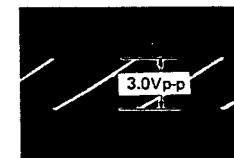

Fig. 4-9
- (1) Connect an oscilloscope to TP-7 on WFP BOARD.
- (2) Adjust R74 (V-SAW-POS) so that the signal level is 3.0 Vp-p. (Fig. 4-9)